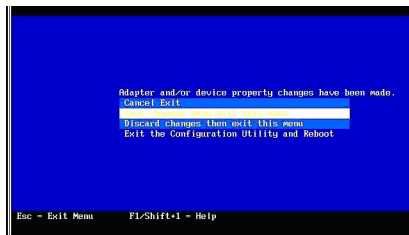

Figure 14. Saving configuration changes for the SAS Expansion Card
8. Press Esc to exit the Adapter Properties screen until the utility asks you to save the configuration as shown in Figure 14. Use the arrow keys to select Save changes then exit this menu, then press Enter.